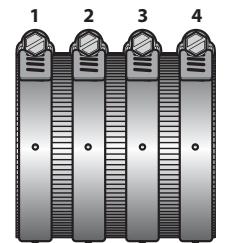

Figure 15
8.9.1. For sizes 1-1/2" to 4", tighten inner clamp 2 and 3 alternately in 20 inch-lb increments until the recommended 80 inch-lb is reached. Then tighten outside clamp 1 and 4 alternately in 20 inch-lb increments until the recommended 80 inch-lb is reached (See Figure 15).